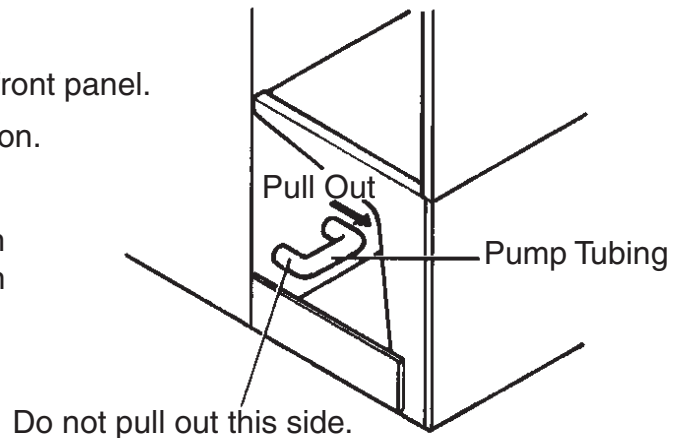

Fig. 5
- 4) Remove one end of the pump tubing. Drain the water tank. Replace the pump tubing in its correct position. See Fig. 5